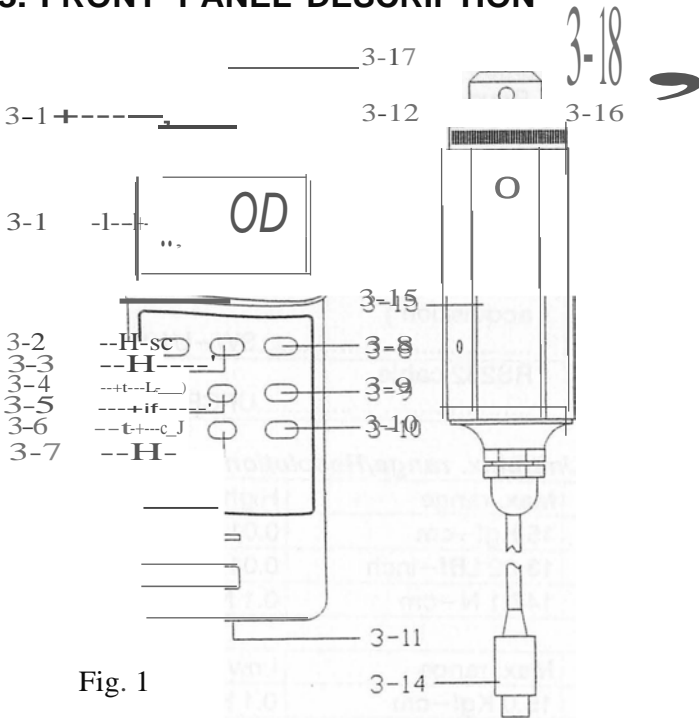

Fig. 1
- 1) Plug in the " Sensor Cable Plug " ( 3-14, Fig. 1) to meter's " Sensor Input Socket " ( 3-12, Fig. 1).
- 2) Power on the meter by push the " Power Button " ( 3-2, Fig. 1).
- 3) Push the " Sensor Type Button " ( 3-8, Fig 1) to check if the meter's sensor type is same as the external torque sensor.
Push the " Unit Button " ( 3-5, Fig. 1) to select the unit Kgf -cm, LBf -inch or N-cm ( Newton -cm ).
Push the "Resolution Button " ( 3-7, Fig. 1) to select the High resolution or Low resolution.
The " Fast/Slow Button " ( 3-10, Fig. 1 ) is used to select the fast sampling time or slow sampling time.
7) To connect the " Cramp " ( 3-17, Fig. 1 ) to the measured installation and use the " Opinion " ( 3-18, Fig. 1 ) to lock the " Gear " ( 3-16, Fig. 1). Ref. Fig. 2 & Fig. 3.
Before the measurement, if the meter not show zero value, it can push the "Zero Button" (3-9, Fig. 1) to tare the display value, the LCD will change to zero value.
During the measurement, push the "Peak Button" (3-6, Fig. 1), the LCD will show the "PEAK" indicator & the display will hold the peak value.
During the measurement, pushing the " Hold Button " (3-3, Fig. 1) will freeze the measured value & display will indicate "HOLD" symbol. Push the "Hold Button " again to release the data hold function.
\* The DATA RECORD function displays the maximum and minimum readings. To start the DATA RECORD function, press the " Max./Min. Button " (3-4, Fig. 1) once. "REC" symbol will appear on the LCD display.
(a) Push the "Max./Min. Button" (3-4, Fig. 1) once, the "Max" symbol along with the maximum value will appear on the display.
To disable this feature, Select the memory record function during measurement, by pressing the " **Max./Min.** " button ( 3-4, Fig. 1).
The instrument features an RS232 output via 3.5 mm Terminal ( 3-13, Fig. 1).